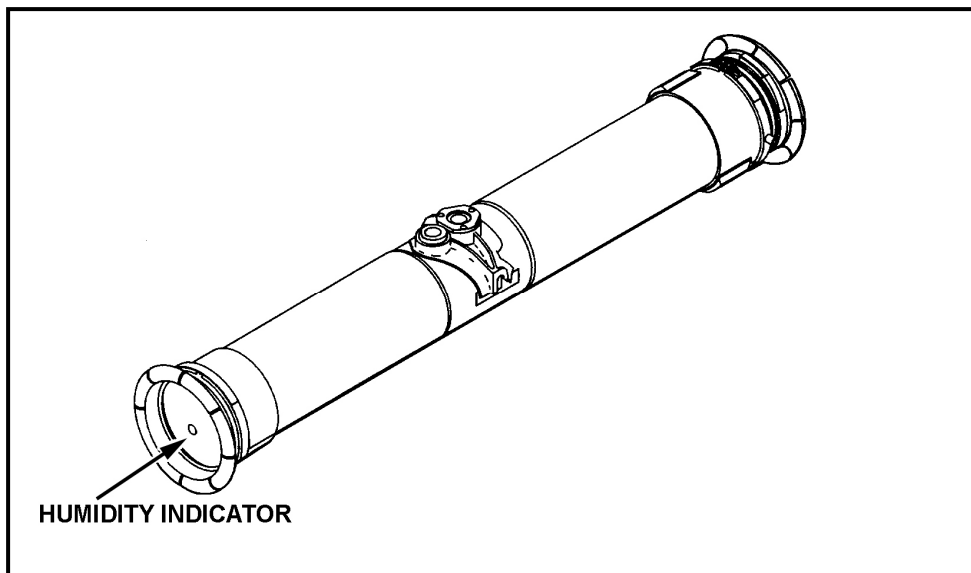
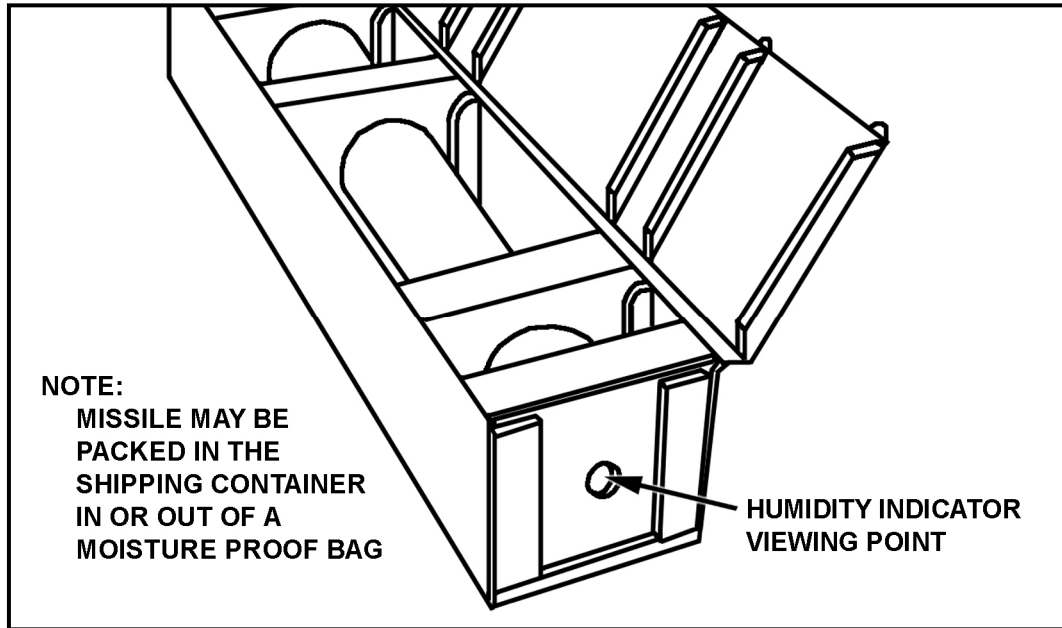

Figure 1-28. Humidity indicator on encased missile.
Figure 1-29. Wooden overpack shipping container.
- c. The humidity indicator is visible at the aft end of the encased missile (Figure 1-28). If the missile is in the overpack, the humidity indicator will be visible through the window at the rear of the overpack (Figure 1-29). If the humidity indicator is blue, proceed with the inspection. If the humidity indicator is pink, return the encased missile to the appropriate ASP as soon as possible.